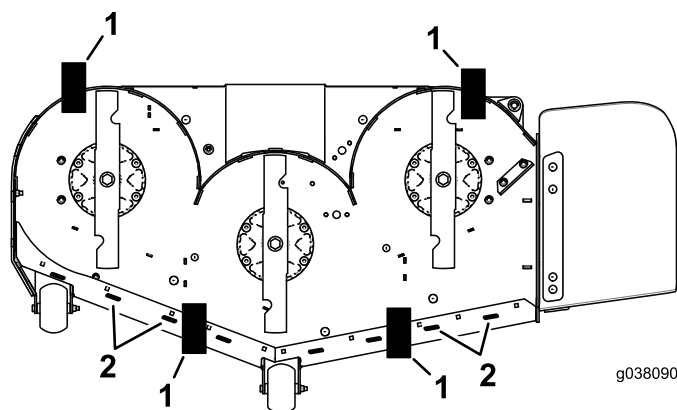

Figure 109
11. Place 2 blocks (see Block Height and Rake Table) under the rear edge of the cutting deck skirt; 1 on each side of the cutting deck (Figure 109).